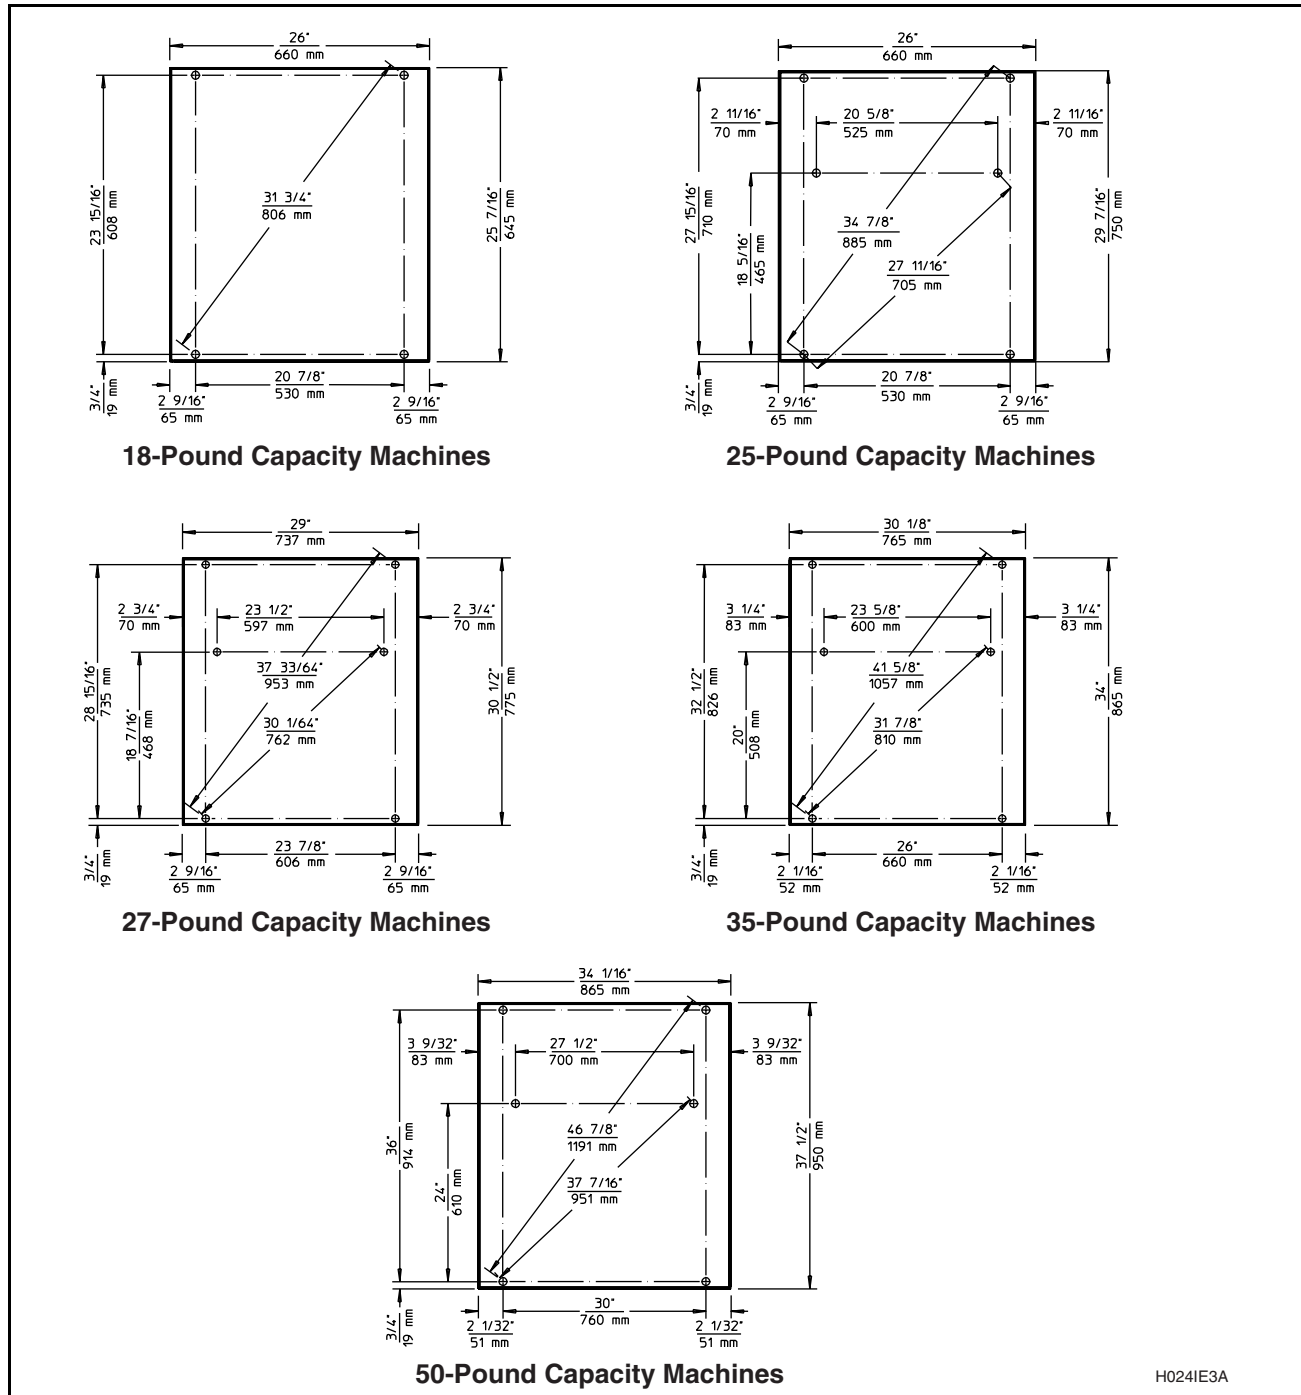
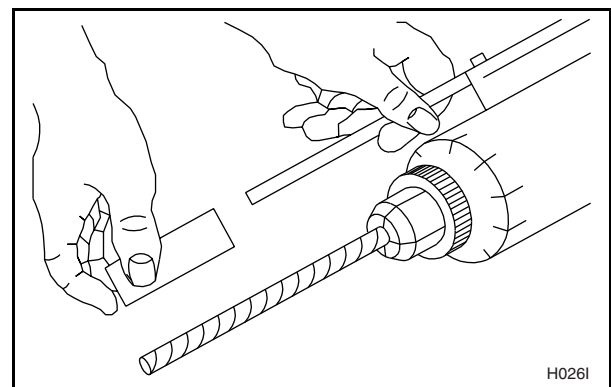

Figure 27
Figure 29
Install J-bolts in concrete per the mounting bolt layouts in Figures 27 and 28. Use the following instructions and Figures 29 through 33 as a guide to step-by-step installation of the J-bolts.
2. Adjust the drill depth gauge to match the length of the J-bolt, minus 1-1/2 inches (38 mm). See Figure 29.
6. Use the mounting bolt layout in Figures 27 and 28 to properly position the mounting bolts in the wet concrete. When using J-bolts, allow 1-1/2 inches (38 mm) to extend above the surface of the concrete.